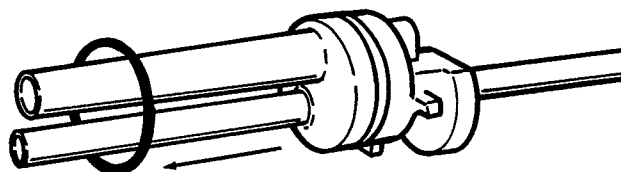

Figure 31. Carburetor "O" Ring Removal
- J. Remove "O" ring from carburetor. (See Fig. 31.)